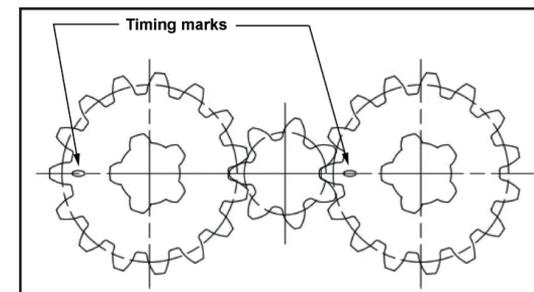

FIG18
- If the gears on the Chain Block Hoist need replacement or removal for any reason, make sure they are re-installed correctly. (FIG 18) shows the proper orientation of the timing marks when meshing the gears.